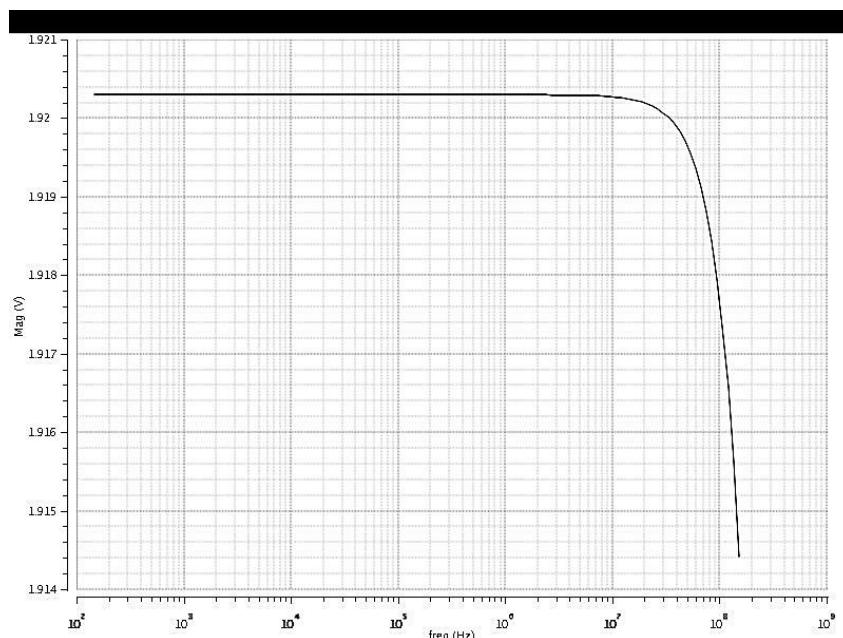
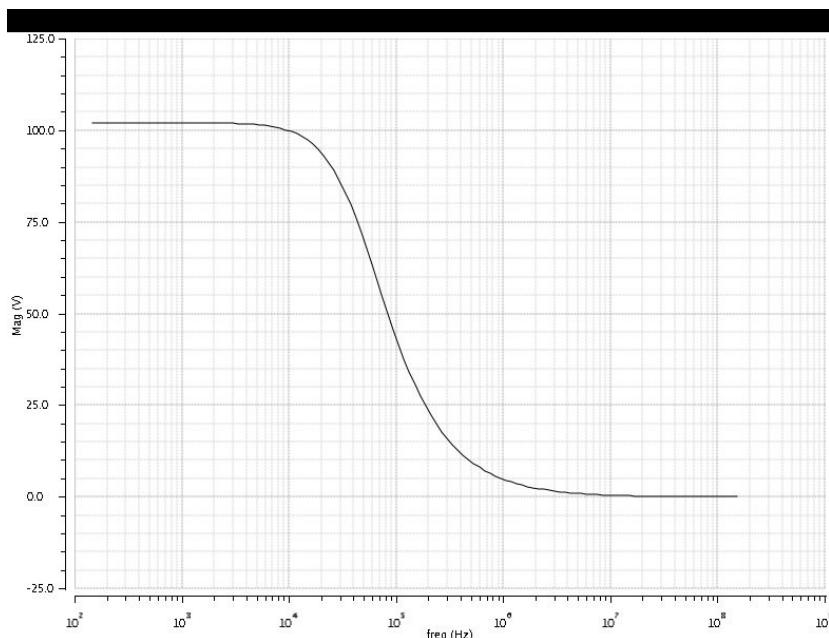

Figure 8.8: AC plot for CS amplifier
Figure 8.12: AC plot for Differential amplifier
- (c) Click Run and you would get a similar plot as shown in Fig.8.8
- (f) A plot similar to the one shown in Fig.8.8 will be shown.
- (b) Also from Fig.8.8, it is clear that the bandwidth extends beyond 10^6 Hz, so it is safe to provide **frequency** to 1kHz.
- Click **Run** and you would get a similar plot as shown in Fig.8.12
- (f) A plot similar to the one shown in Fig.8.12 will be shown.
- (b) Also from Fig.8.12, it is clear that the bandwidth extends beyond $10^6 Hz$, so it is safe to provide **frequency** to 1kHz.
1. From the plots shown in Fig.8.8 and Fig.8.12, Use **cross** function to read the *3dB frequency* and *unity-gain frequency*.